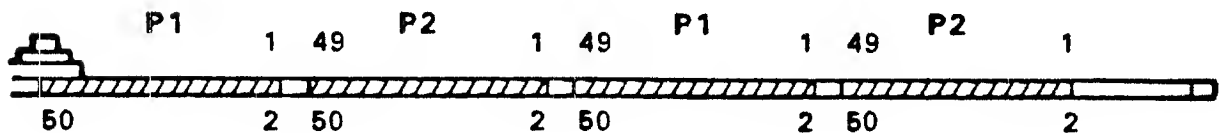

Figure 8. Interface Connectors
**Note:** This equipment generates, uses, and can radiate radio frequency energy and if not installed and used in accordance with the instructions included in this manual, may cause interference to radio communications. Verification of compliance with Subpart J of Part 15 of FCC Rules, which are designed to provide reasonable protection against such interference, is the responsibility of the installer. Interface connectors provided on the GCR are shown in Fig. 8. Tables 1 and 2 list the pin locations for interface inputs and outputs.